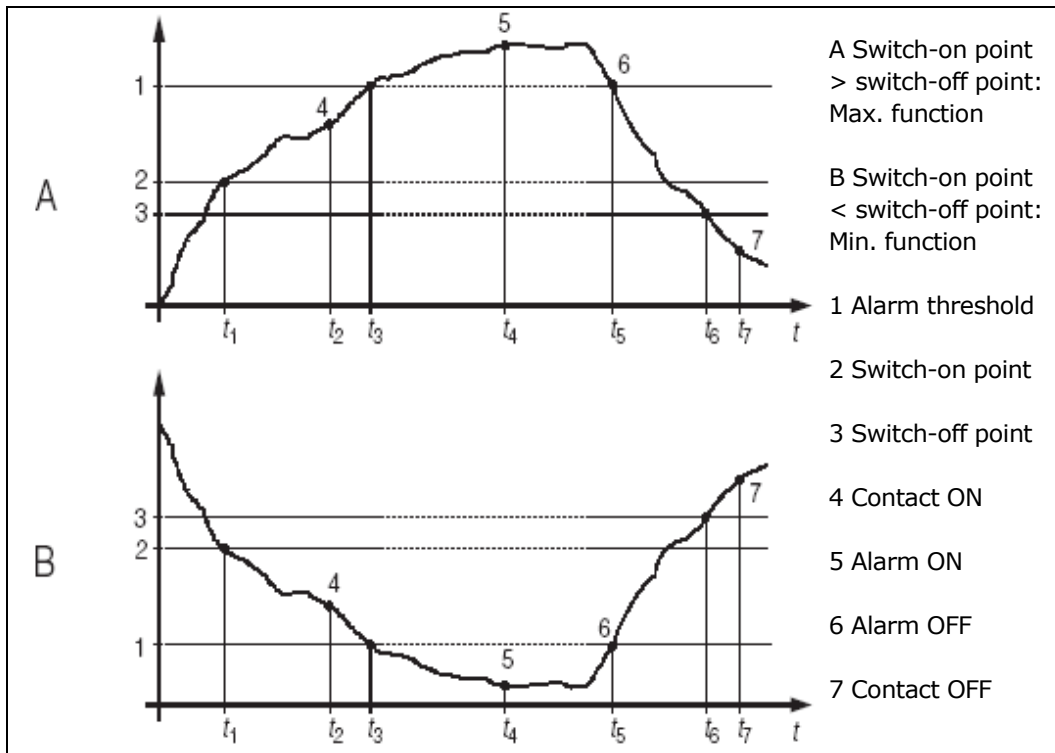

Figure 13. alarm and limit functions
- To change set point: enter new set point (SP) in field R232.
- Limit contactor: see Figure 13 and the manual paragraph 5.5.1 page 38 for information on the operation of the limit contact function. First set Relais REL to limit contact functionality by choosing "REL2" in field R1 of function group RELAIS. This leads to field R2 which should be set to "LC PV" (Limit Contactor for Process Value).
The setting of switch-on and switch-off points will directly lead to the appropriate setting regarding the control direction (i.e. minimum or maximum). If the switch-on point is lower than the switch-off point then the limit contactor will work in minimum function (see Figure 13, B). In this mode the relais contact is closed when the process value (pH) is too low. Because this relais contact is wired in series with the contact of REL1 – which is controlled by the PID controller - it will allow the PID controller's output when the pH is lower than the set point. Therefore this control direction is to be used in case of base addition.
- In case of control with base addition the limit contactor REL2 has to be closed to enable the PID control by REL1 if the process value is lower than the set point (SP). It can be opened again if the process value is rising above the set point. Therefore the on value (R212) is set pH 0.05 lower than the set point entered for the PID controller (SP) in R232. The off value (R213) is set equal to SP. Enter in R216 an alarm threshold lower than the switch off point in order to keep the limit contactor closed between its limits. R217 should show MIN which means that the minimum function was selected.
- In case of control with acid addition REL2 has to be closed to enable PID control if the process value is higher than the set point. It can be closed again if the process value is falling below the set point. Therefore the on value (R212) is set pH 0.05 higher than the set point entered for the PID controller (SP) in R232. The off value (R213) is set equal to SP. Enter in R216 an alarm threshold higher than the switch off point in order to keep the limit contactor closed between its limits. R217 should show MAX which means the maximum function was selected.
- The alarm contact is also configured in the Limit contact function. An alarm threshold (in case of base addition pH 0.2 lower than the set point and pH0.2 higher in case of acid addition) is set in R216. The alarm delay is set in another function group. Please go to function group "Alarm" and enter an alarm delay of 60 seconds in F3. The transmitter will switch the alarm contact when both the alarm threshold is reached and the alarm delay ($t_4 - t_3$ in Figure 13. alarm and limit functions) has expired.